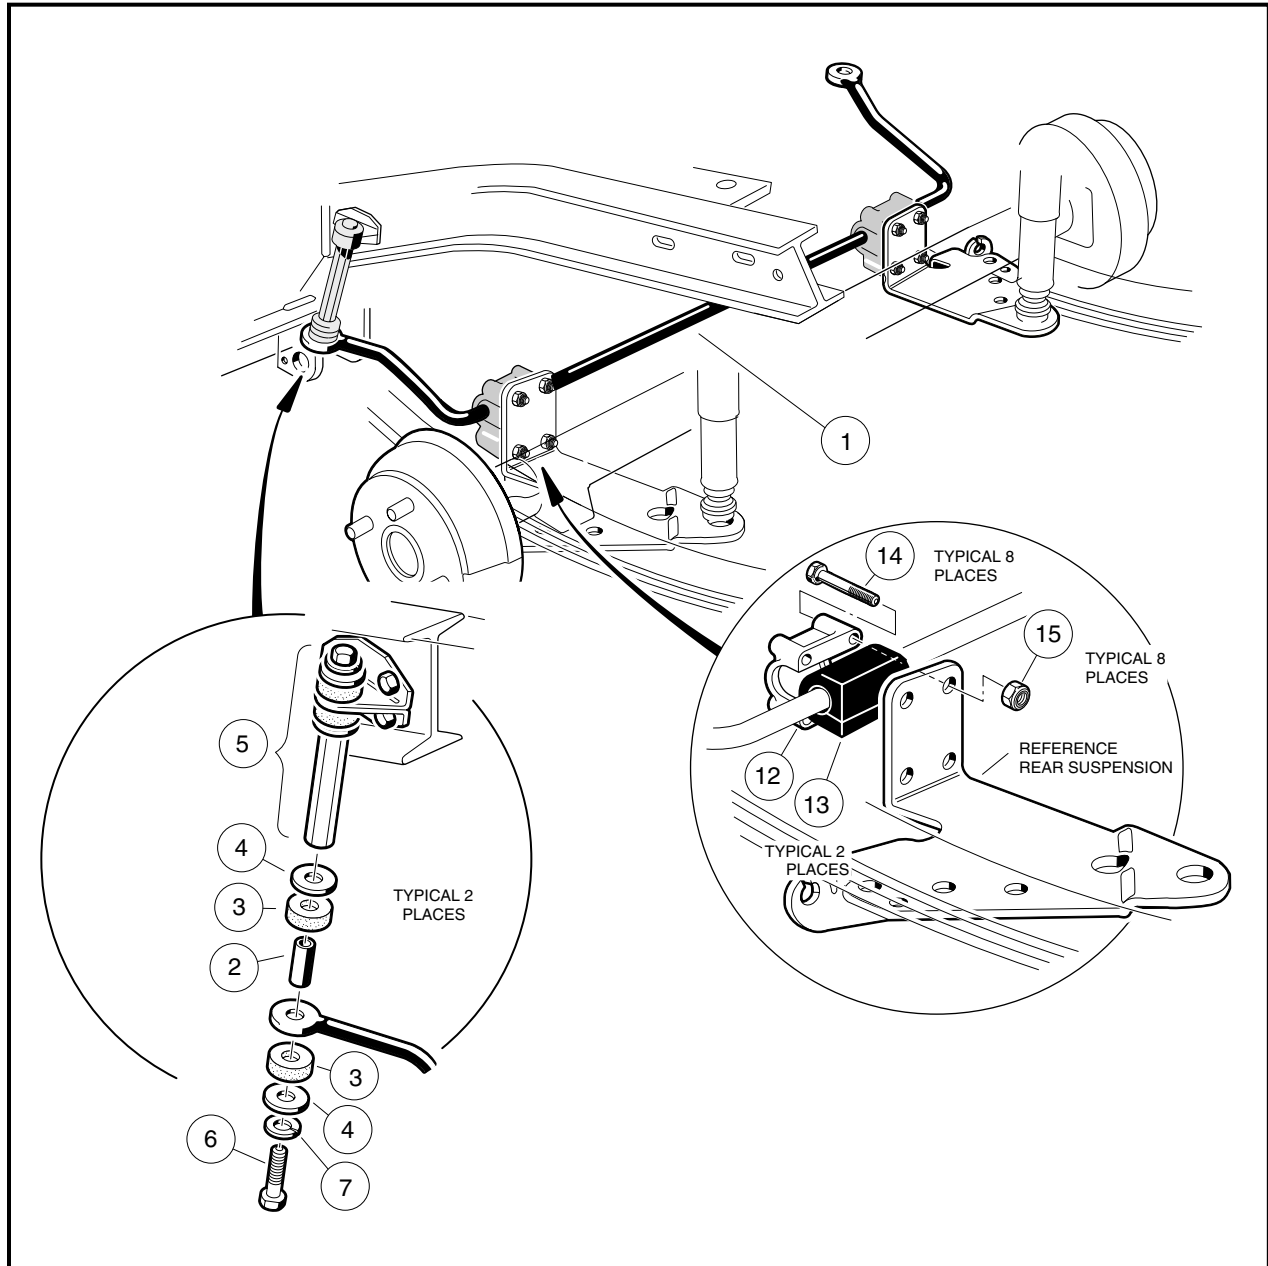

Figure 9-6 Stabilizer Bar
2. Remove bolt (6), lock washer (7), flat washers (4), compression mounts (3), and spacer (2) from left and right stabilizer bar links (5). Do not remove the stabilizer bar links from frame (**Figure 9-6, Page 9-9**).
3. Remove bolts (14) and lock nuts (15) from the left and right stabilizer bar bushing support (12) and remove supports and stabilizer bar (1) from vehicle.
4. Remove bushings (13) from stabilizer bar (1).
1. Position stabilizer bar at the transaxle mounting brackets. Install a bushing (13) onto bar, making sure the bushing is located in the center of the four mounting holes in the bracket (**Figure 9-6, Page 9-9**).
2. Place the bushing support (12) onto the bushing. Install four hex-head bolts (14) through the bushing support and transaxle mounting bracket.
3. Install four lock nuts (15) and tighten to 75 in-lb (8.4 N·m).
5. Place lock washer (7), flat washer (4), spacer (2), and compression mount (3) onto bolt (6). Install bolt through mounting hole in stabilizer bar and place another compression mount (3) and flat washer (4) onto bolt (**Figure 9-6, Page 9-9**).
6. Install the bolt (6) with hardware into the stabilizer bar link (5) and finger-tighten.
8. Tighten bolts (6) in the stabilizer bar links (5) to 17 ft-lb (23 N·m).